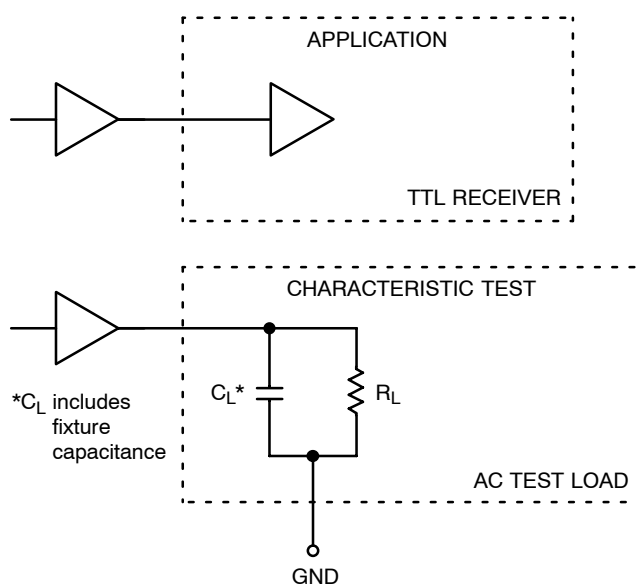

Figure 3. TTL Output Loading Used for Device Evaluation
4. Measured with a 750 mV 50% duty-cycle clock source. $R_L = 500\ \Omega$ to GND and $C_L = 20\text{ pF}$ to GND. Refer to Figure 3.